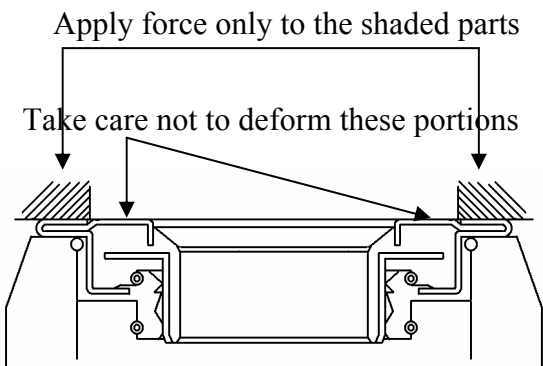

Fig.6-26
- 3) When installing unitized seals on the wheel shaft cover and the rotating part between the final cases (A and B), apply force only to the outer circumference of the seal as shown in Fig.6-26 to avoid deformation.